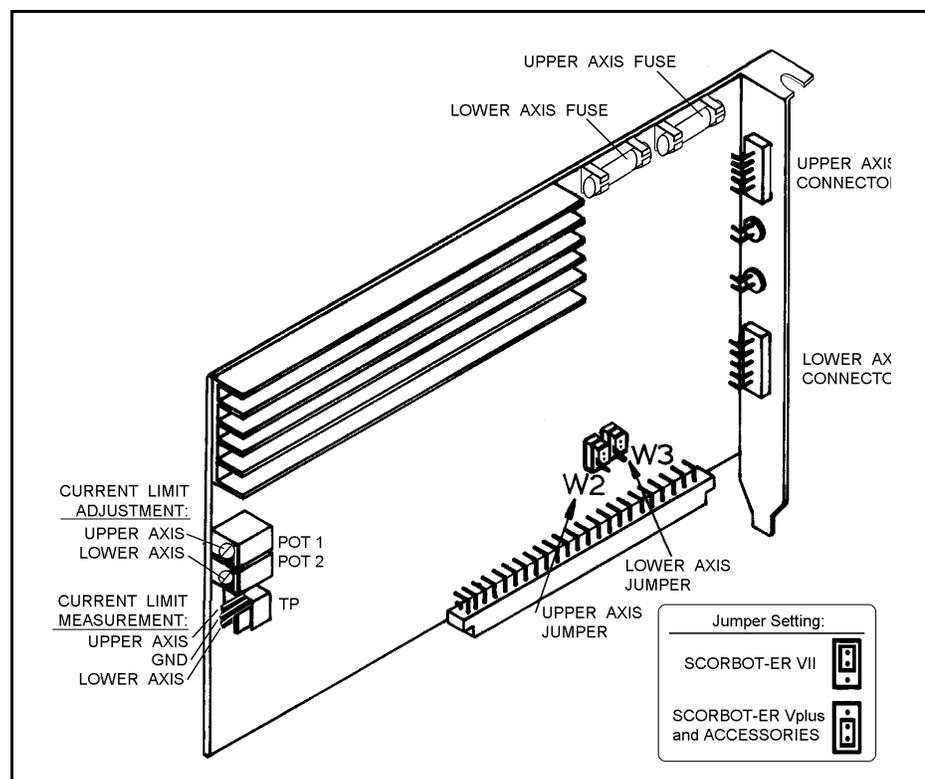

Figure 8-8: Axis Driver Card
Refer to Figure 8-8.
2. Connect the common probe of the voltmeter to the middle point in TP (marked GND in Figure 8-8).
Note the configuration of the two jumpers, W2 and W3, on the driver card, shown in Figure 8-8.